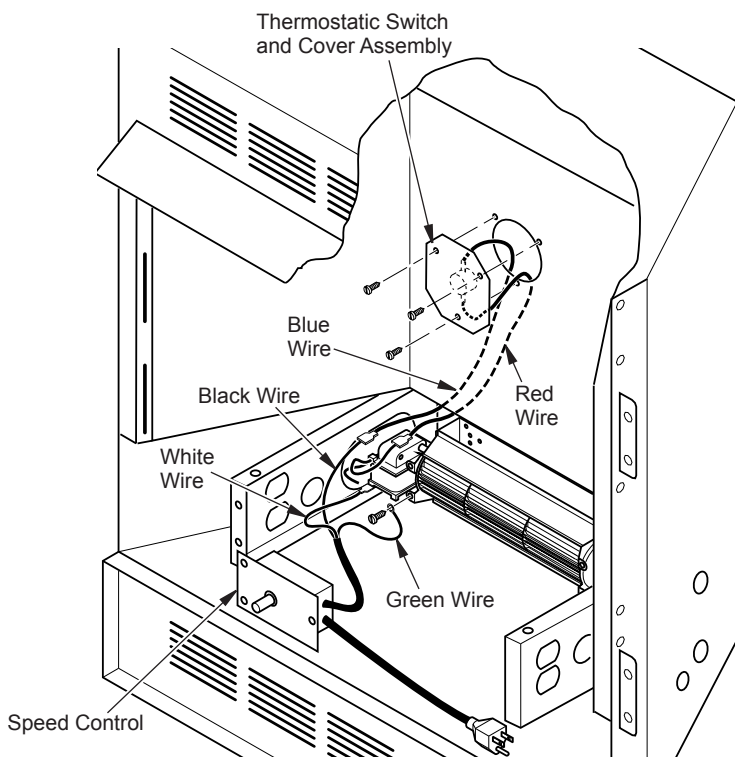

Figure 2 - Installing Switch and Cover Assembly, and Speed Control
4. Remove the three screws (do not discard) and cover plate from center of firebox wrapper rear wall. Discard this cover plate (see Figure 2).
5. Mount the supplied thermostatic switch and cover assembly into firebox wrapper rear wall. Do this by feeding terminal ends of wire harness into the hole. Allow wires to fall to bottom of firebox cavity (see Figure 2).
6. Using three screws from step 7, attach switch and cover assembly to firebox wrapper rear wall. Tighten screws firmly (see Figure 2).
8. Firmly attach red wire from the thermostatic switch and cover assembly to either of the terminals on the blower motor (see Figure 2).
9. Firmly attach black wire from speed control cord to blue wire from thermostatic switch and cover assembly (see Figure 2).
10. Firmly attach white wire from speed control cord to remaining terminal on blower motor (see Figure 2).
11. Using screw provided, attach green ground wire from speed control cord to blower housing. Tighten screw securely (see Figure 2).